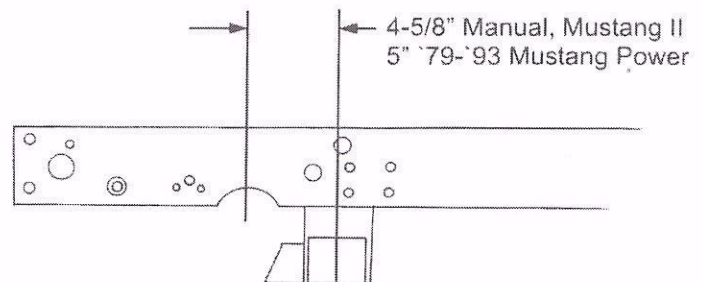

Figure 6
8. The C-notch for the rack is the last part to be done. Measure forward from the centerline 4-5/8" for manual rack and '78-'78 Mustang II power rack, or 5" for '79-'93 Mustang power rack, and make a mark. See Figure 6. Use the C-notch pieces to scribe a radius to cut. Trim out the material marked, leaving about 1/8" to work with, fitting the C-notch pieces and rack in place as you go. You will also need to trim a portion of the rear stock crossmember for rack clearance. When the rack fits in place, remove the rack and weld the C-notch pieces in place, then grind smooth.